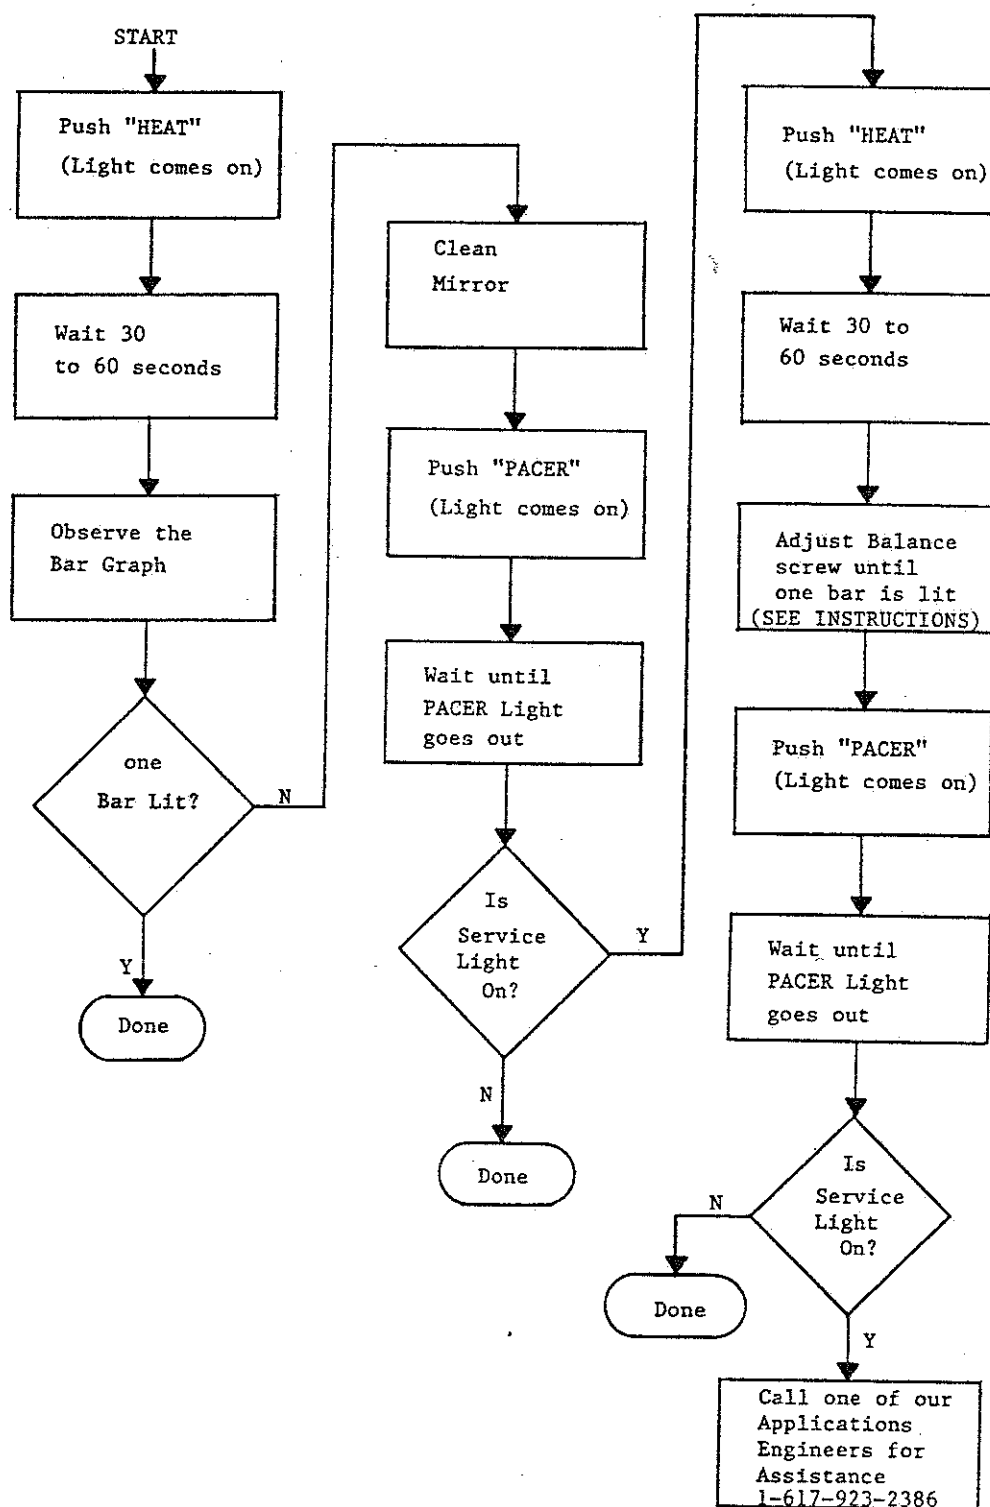
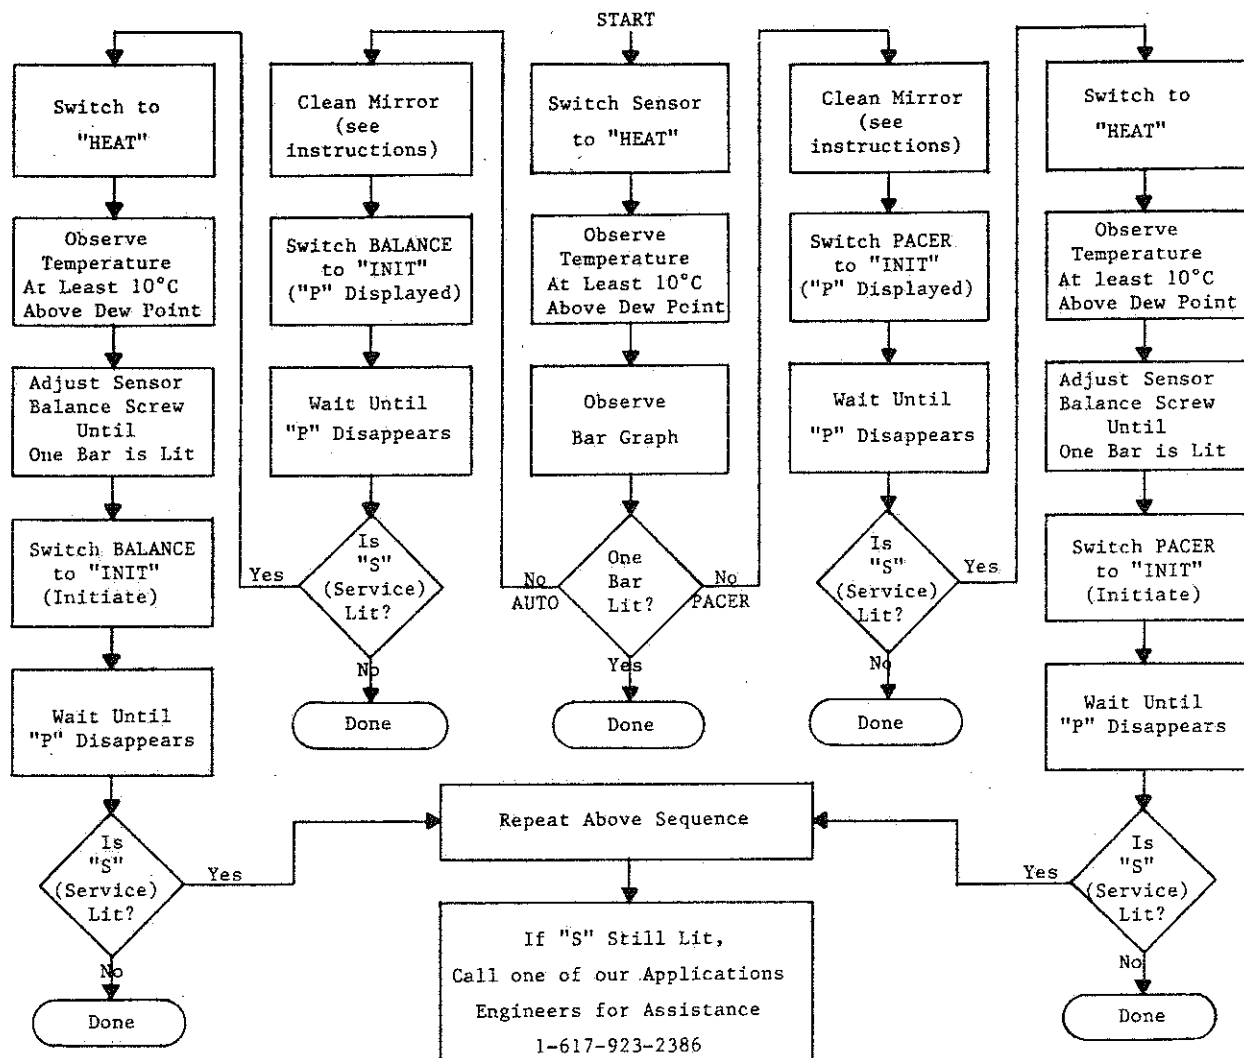

Figure 5-2. Sensor Balance Adjustment Flow Diagram for Hygro-M2
Figure 5-3. Sensor Balance Adjustment Flow Diagram for Hygro-E2
4. Initiate a PACER cycle by pressing the PACER control switch. At the completion of the cycle, the M2/E2 is properly balanced. Figure 5-2 diagrams the complete balancing procedure for the M2. Figure 5-3 diagrams the complete balancing procedure for the E2.